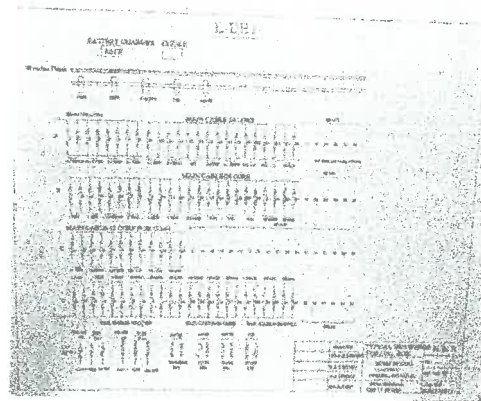

Figure-2
2. **Description details of Terminals :** The Row of Screwless Disconnect Terminal / ARA Terminal shall be serially numbered as A, B, C, D..... from top and in each row, terminals shall also be serially numbered from left to right starting from 1. (Annexure-A, Figure-2).
Termination details shall be fixed in the respective location box duly printed on a board and another laminated copy /copy in plastic cover shall also be kept in the location box. (Annexure-A, Figure-2).